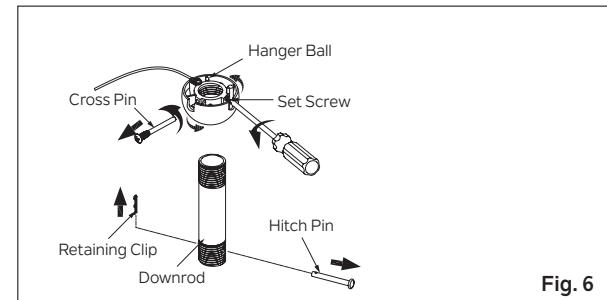

Fig. 6
Step 2. Remove the retaining clip and hitch pin from the downrod assembly. Remove the hanger ball from the downrod assembly by loosening the set screw on the hanger ball (do not remove), unscrewing and removing the cross pin, and unscrewing the hanger ball (counterclockwise) from the downrod. **(Fig. 6)**